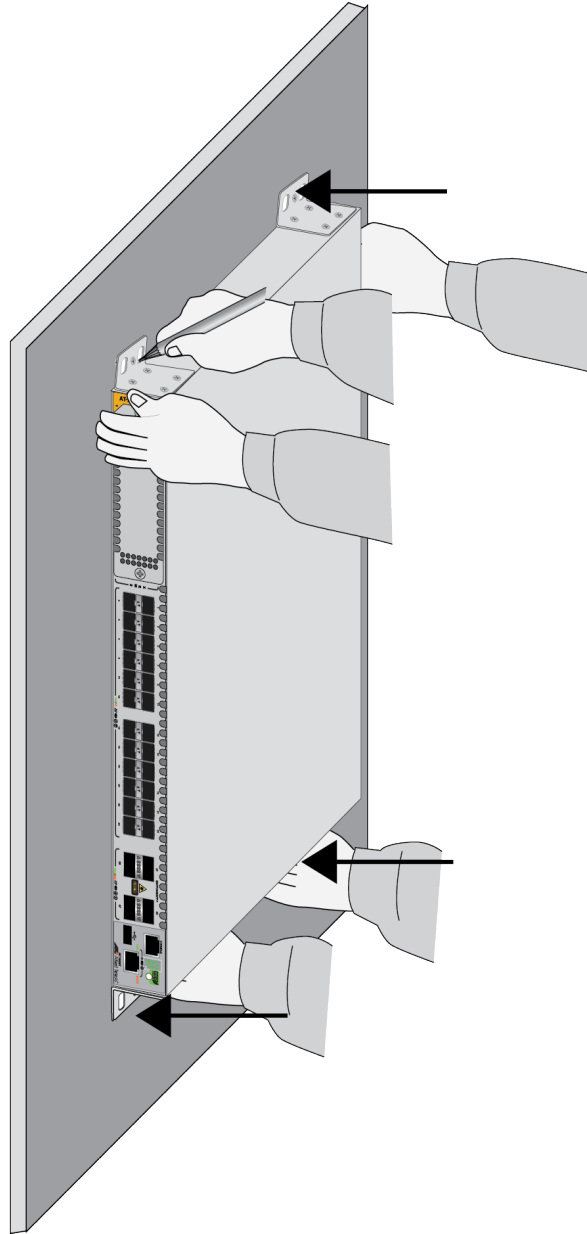

Figure 77. Marking the Locations of the Bracket Holes on a Concrete Wall
3. Have two people hold the switch on the concrete wall at the selected location for the device while you use a pencil or pen to mark the wall with the locations of the four screw holes in the four brackets. Refer to Figure 77 on page 130.